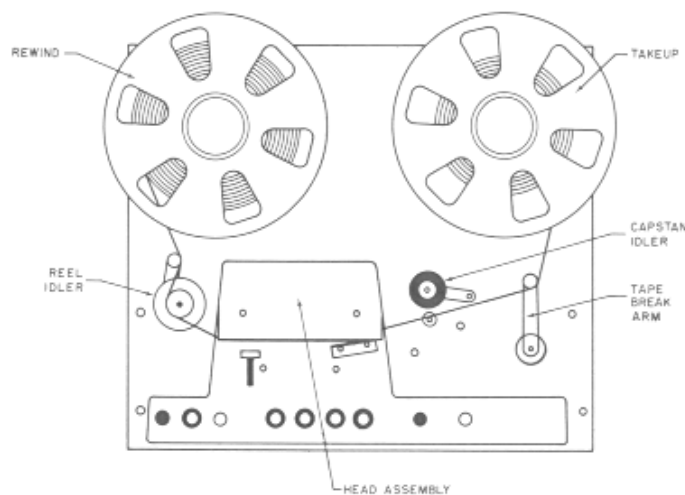

Figure 3-3. Tape Threading Path
3.3.1. Preliminary (See figure 3-3.)
as indicated in the tape threading diagram (fig. 3-3). Tape is properly threaded when it is between the Capstan and the Pressure Roller.